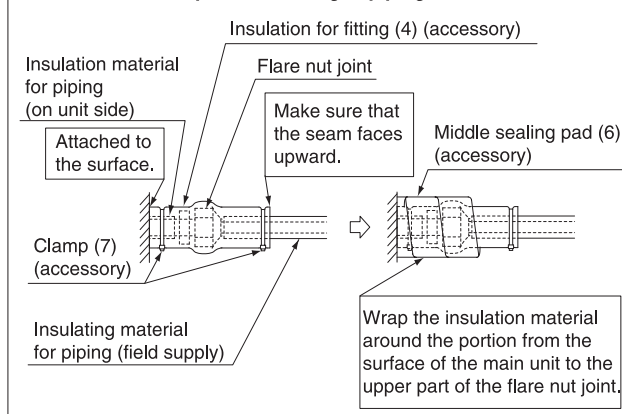
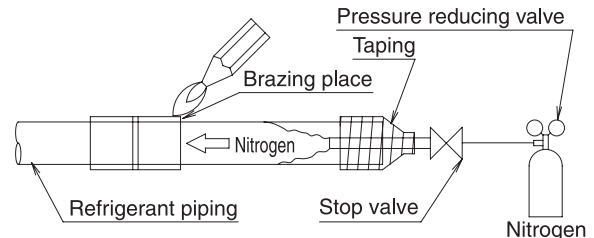

Fig. 8
Fig. 9
On completion of installation work, check that there is no gas leakage. Refer to the illustrations on the right hand side and be sure to perform heat insulation work on the piping joints after gas leakage. (Refer Fig.8)
- Use the insulation for fitting (3) and (4) provided to the liquid piping and gas piping, respectively and conduct heat insulation work. (Tighten both edges of the insulation for fitting(3) and (4) for each joint with clamp(7)).
- Make sure that the joint of the insulation for fitting(4) and (5) for the joint on the liquid piping and gas piping side faces upwards.
- Wrap the middle sealing material(6) around the insulation for fitting (3) and (4) for the joint (flare nut part).
- Before brazing refrigerant piping, have nitrogen flow through the refrigerant piping and substitute air with nitrogen (NOTE 1) (Refer to Fig. 9). Then, carry out brazing (NOTE 2). After all the brazing works are finished carry out flare connection with the indoor unit. (Refer to Fig. 8)